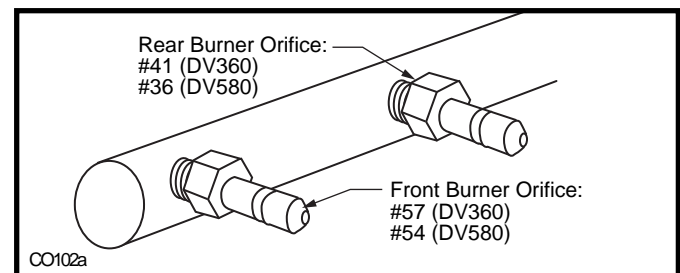

Fig. 66 Remove burner orifice, replace with LP orifice.
6. Remove burner orifice from manifold assembly using 7/16" wrench. (Fig. 66)